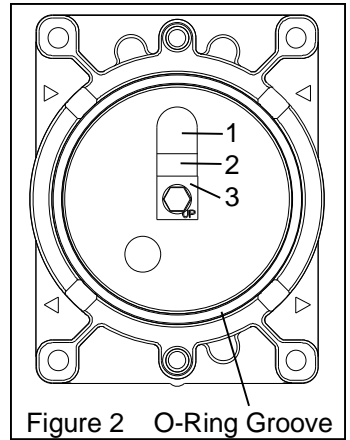

Figure 2 O-Ring Groove
STEP 5. Remove the intake Valve Flapper (1), Valve Backer (2), Valve Keeper (3) if assembled, and screw from the bottom of the valve plate and discard. Clean the bottom of the plate with a clean, soft cloth. Install the new intake Valve Flapper, and Valve Backer (if one was removed). The Valve Keeper should be placed on top of the Valve Flapper so that the word "UP" is visible See Figure 2.
STEP 6. Install the new O-ring, seating it firmly into the groove with your finger or blunt object See Figure 2.